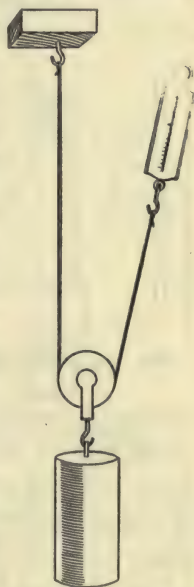

FIG. 171. — A movable pulley lightens labor.
**Movable pulleys.** — By the use of a movable pulley, we are able to support a heavy weight by a small force. In Figure 171, the spring balance supports only one half the entire load, the remaining half being borne by the hook to which the string is attached.
We have seen in our study of the lever and the inclined plane that an increase in force is always accompanied by a decrease in distance, and in the case of the pulley we naturally look for a similar result. If you raise the balance (Fig. 171) 12 feet, you will find that the weight rises only 6 feet; if you raise the balance 24 inches, you will find that the weight rises